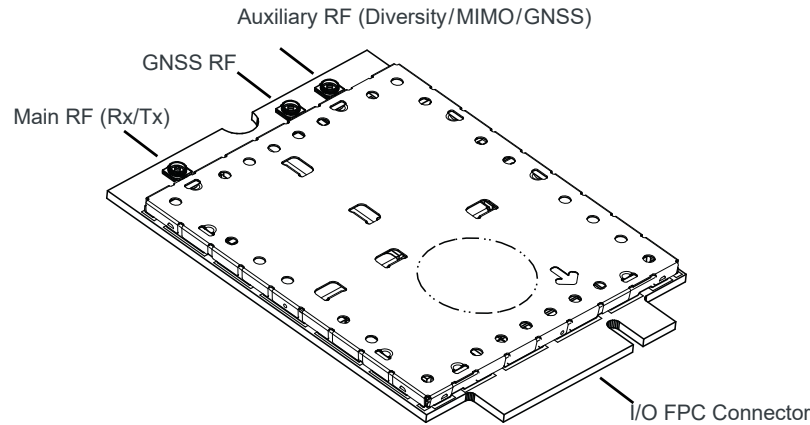

Figure 3-1: Module Connectors (Preliminary shield design, subject to change)
- Connect to system ground using the mounting hole shown in Figure 3-1 on page 34.